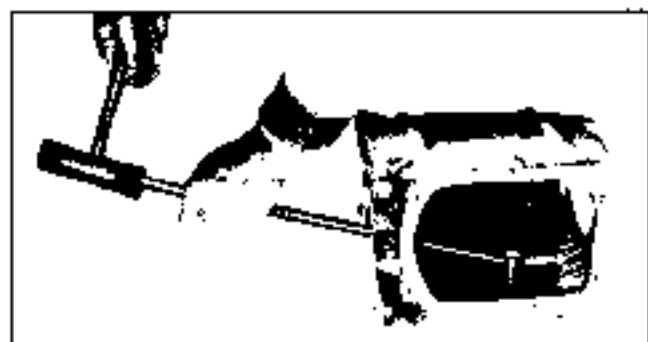

Fig. 7C-9 Removing Reverse Idler Gear Shaft
14. Remove rear bearing snap ring from mainshaft (Fig. 7C-4).